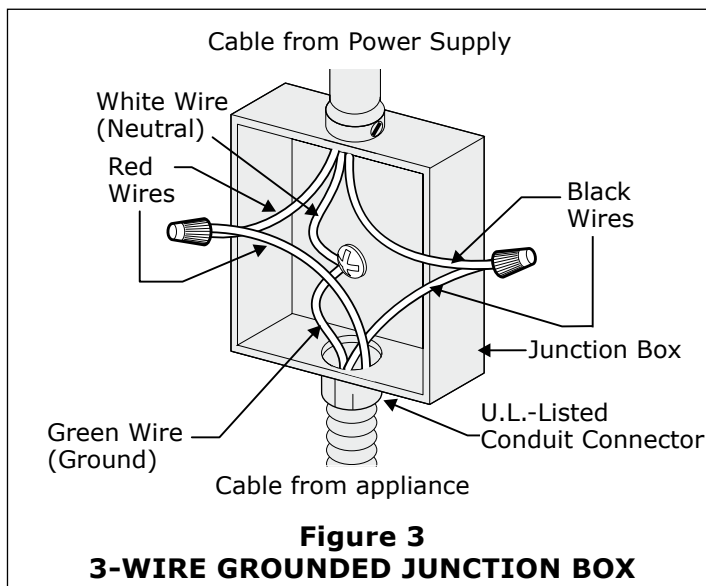

Figure 3
Where local codes permit connecting the appliance-grounding conductor to the neutral (white) wire (see figure 3):
2. In the circuit breaker, fuse box or junction box, connect appliance and power supply cable wires as shown in figure 3.